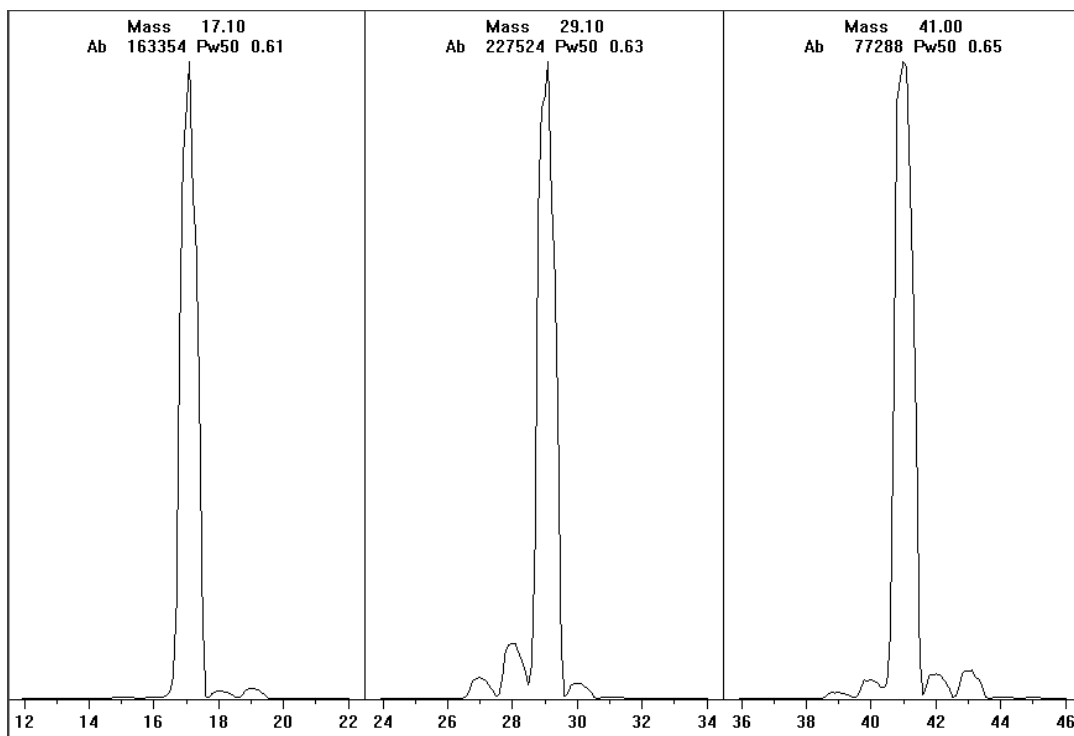

Figure 43 Reagent ion scans after a very long bake out
- 8 Examine the displayed profile scan of the reagent ions. (See Figure 43.)